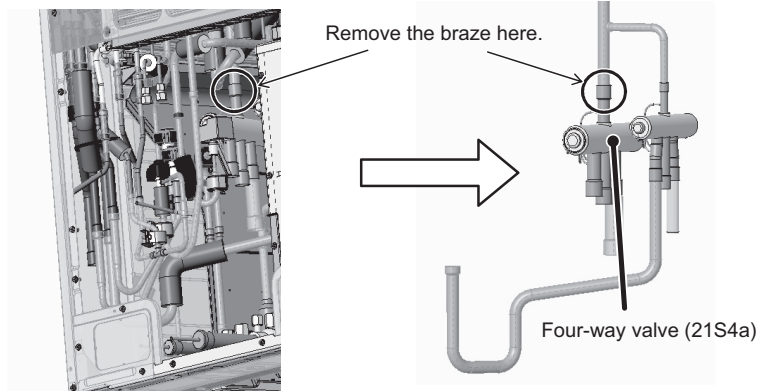

Figure 9
- (9A) Remove four-way valve (21S4a) by removing the braze from the area above four-way valve (21S4a) as shown in Figure 9.